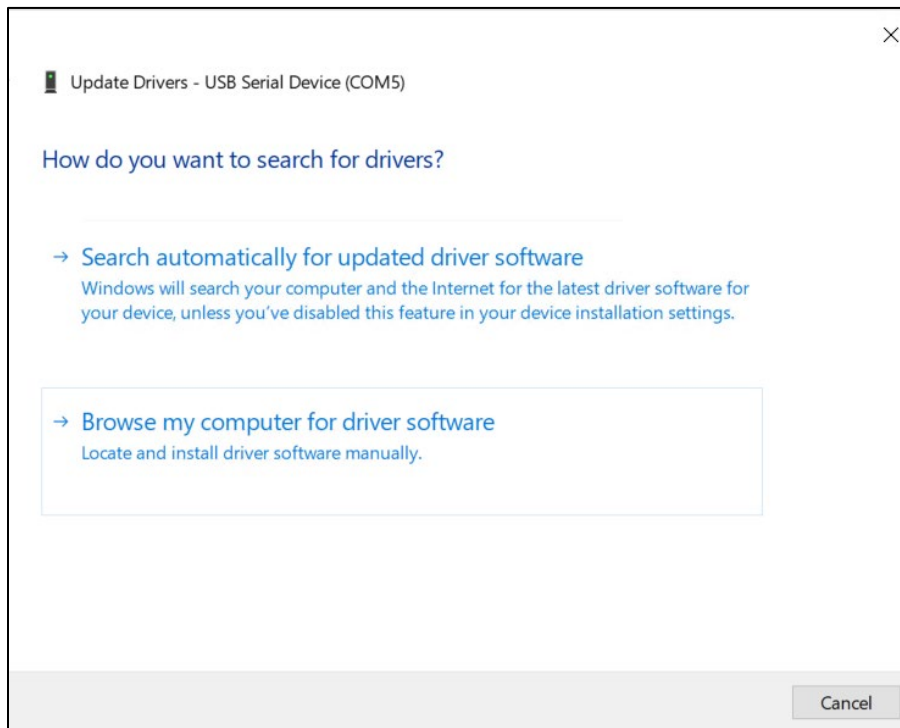

Figure 64-6. Browse Computer for Driver Software
- Step 5. Select Browse My Computer for Driver Software as shown in Figure 64-6.